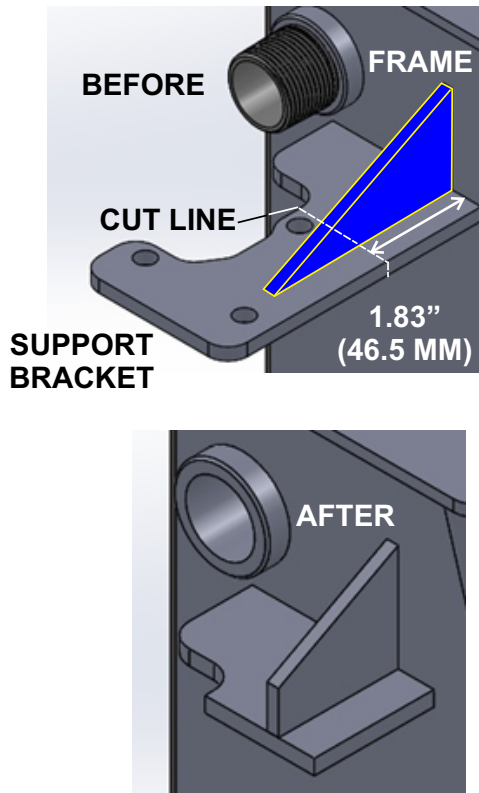

Figure 5. Cutting Hydraulic Oil Filter Bracket
1. Using a reciprocating saw (sawzall) cut the hydraulic oil filter weldment bracket as shown in Figure 5. The cut should be 1.83 inches (46.5 mm) from the edge of the frame.